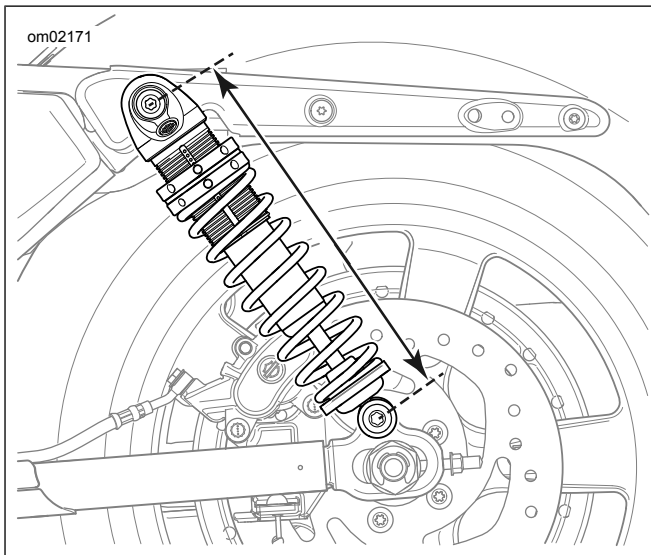

Figure 13. Shock Absorber Length
- a. **All except XL1200T and XL1200CX:** See Figure 13. Measure from the center of the lower shock mounting bolt to the center of the upper mounting bolt. Compare the measurement to the identification table to determine if your motorcycle has low, medium or tall shock absorbers. Refer to Table 19.